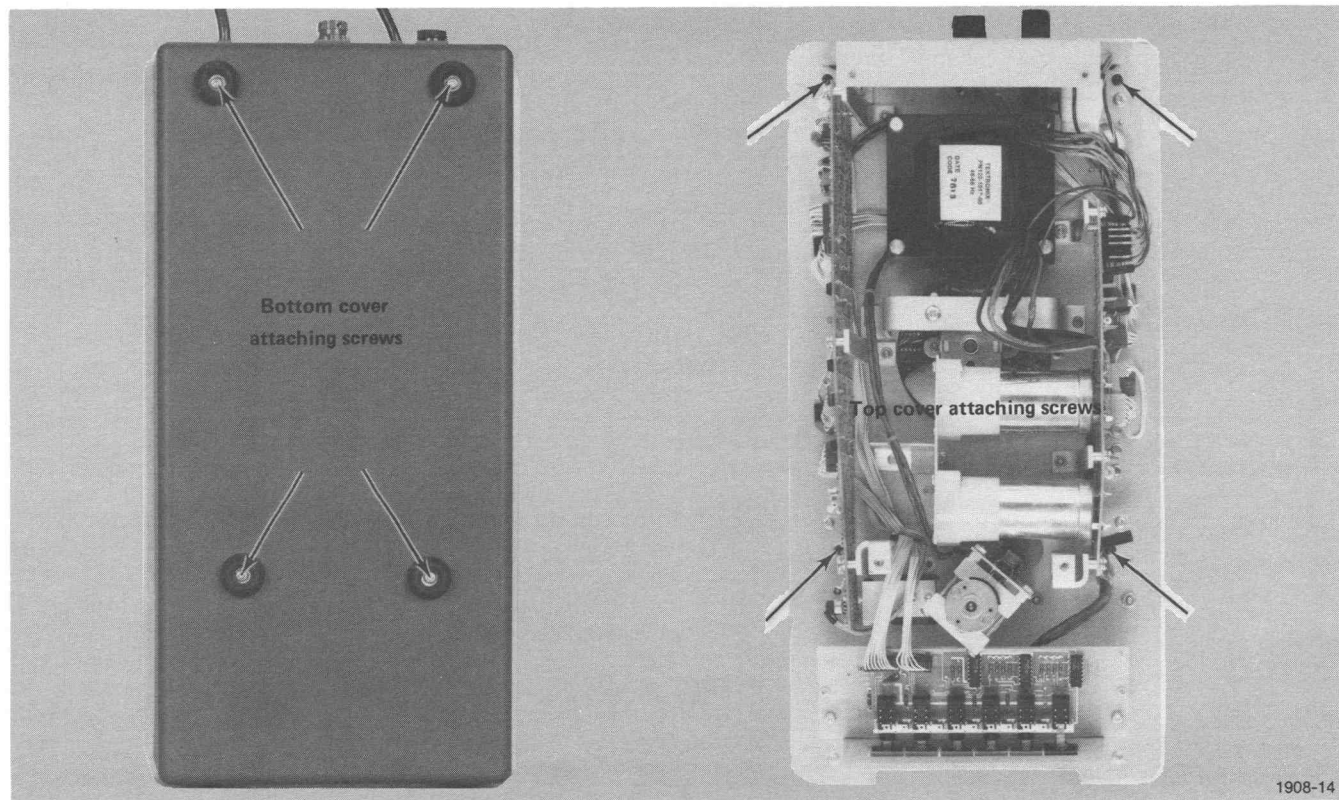

Fig. 3-1. Cover attaching screws. The unit is viewed from the bottom.
2. Turn the 4923 over, resting it on the unit's top. Remove the four screws that attach both the unit's feet and the bottom cover (Fig. 3-1), then remove the bottom cover.
3. Leaving the unit on its top, remove the four black internal screws that attach the top cover (Fig. 3-1), then lift the chassis out of the top cover and place it upright on a work area.